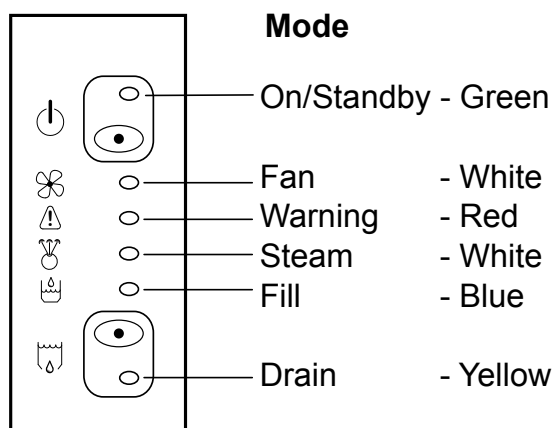

Fig. 5a
5.1 The electronic board located inside the unit controls all the humidifier functions. The front panel is equipped with pilot lights indicating the status of the humidifier. Please see Fig.5a.